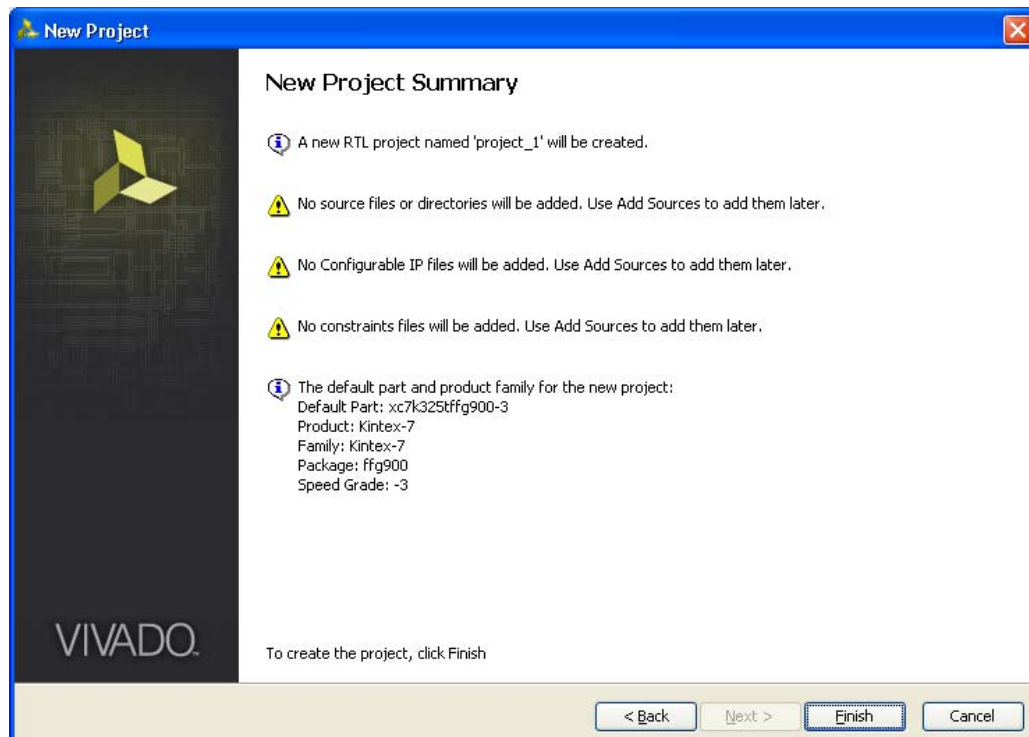

Figure 2-11: New Project Summary
- Click **Next** to open the **New Project Summary** page (Figure 2-11). This includes the summary of selected project details.